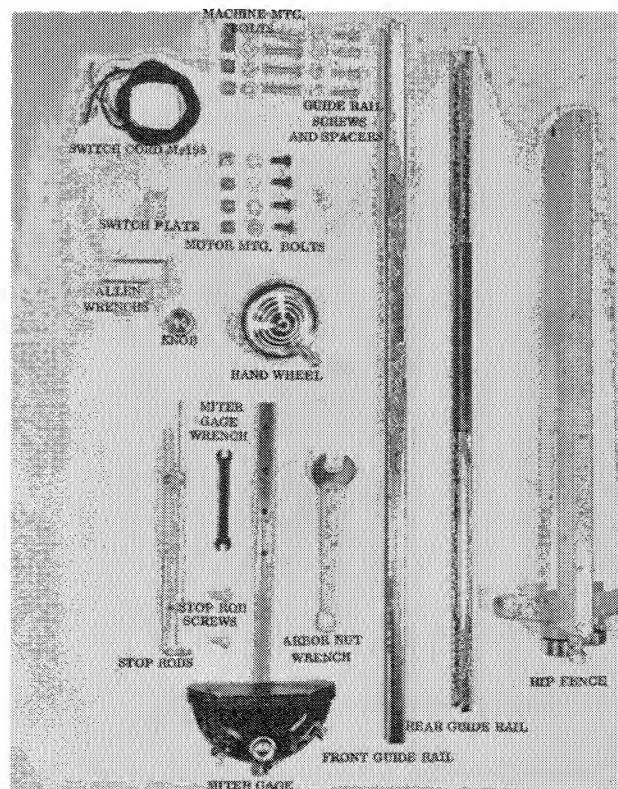

FIG. 3
2. We suggest a Delta Stand. Either the individual Delta No. 50-810 Steel Stand or Delta No. 50-308. The 50-308 Stand is built to mount both the 9" Tilting Arbor Saw and the 4" Jointer. Both Stands are of the proper height, will readily fit Delta machines and can be equipped with Delta Retractable Casters. Fasten the saw to the stand with the Hex Hd Cap Screws, washers and nuts furnished in package SP-34-600-E. See Fig. 3.
3. Attach front and rear guide rails using screws and spacers furnished in package SP-34-600-C. See Fig. 3.